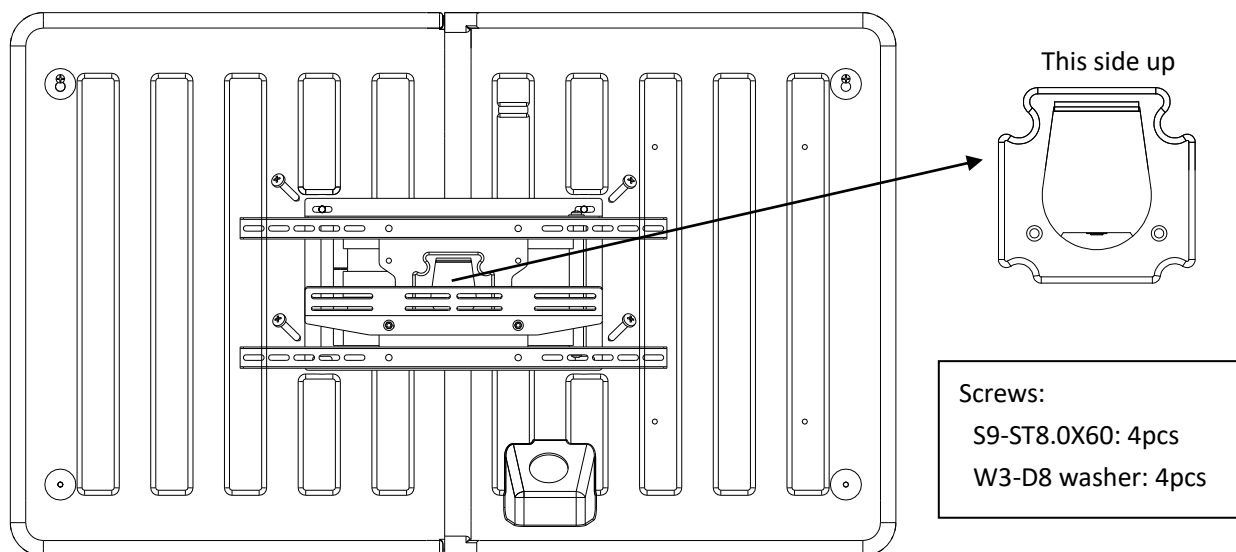

Figure 12
5. Hang the Storm Shell Back on the wall. Use a 13 mm socket and wrench to attach the TV Bracket using the S9 Lag Bolts and the W3 washers (note the washers are placed between the S9 bolt head and the TV Bracket mounting hole). Ensure that the TV Bracket is level and installed in the right direction. See Figure 12.